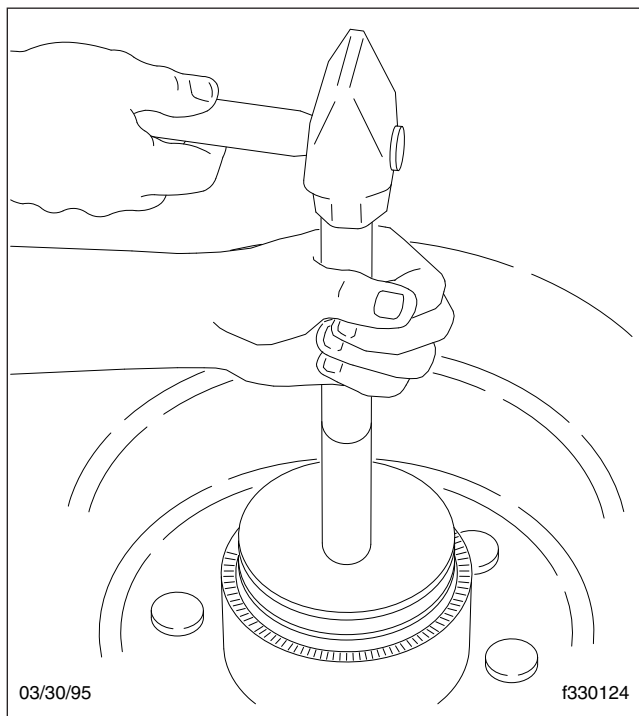

Fig. 6, Install the Seal
- 6.4 Hit the handle of the installation tool *gently*. See Fig. 6.